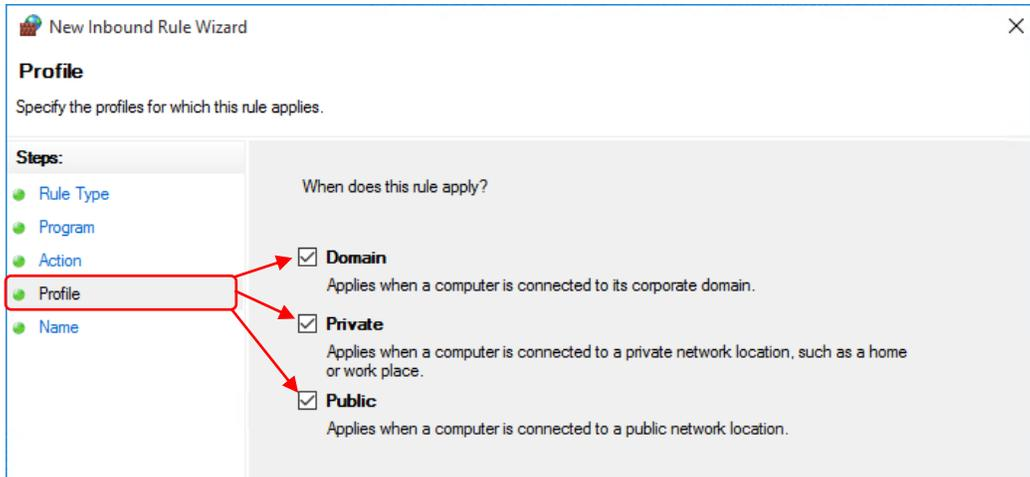

Figure 131: New Inbound Rule Profile Page
10. On the **Profile** page, select the profile where the rule is to be applied. If you are unsure which profile to choose, select all three options (Figure 131).